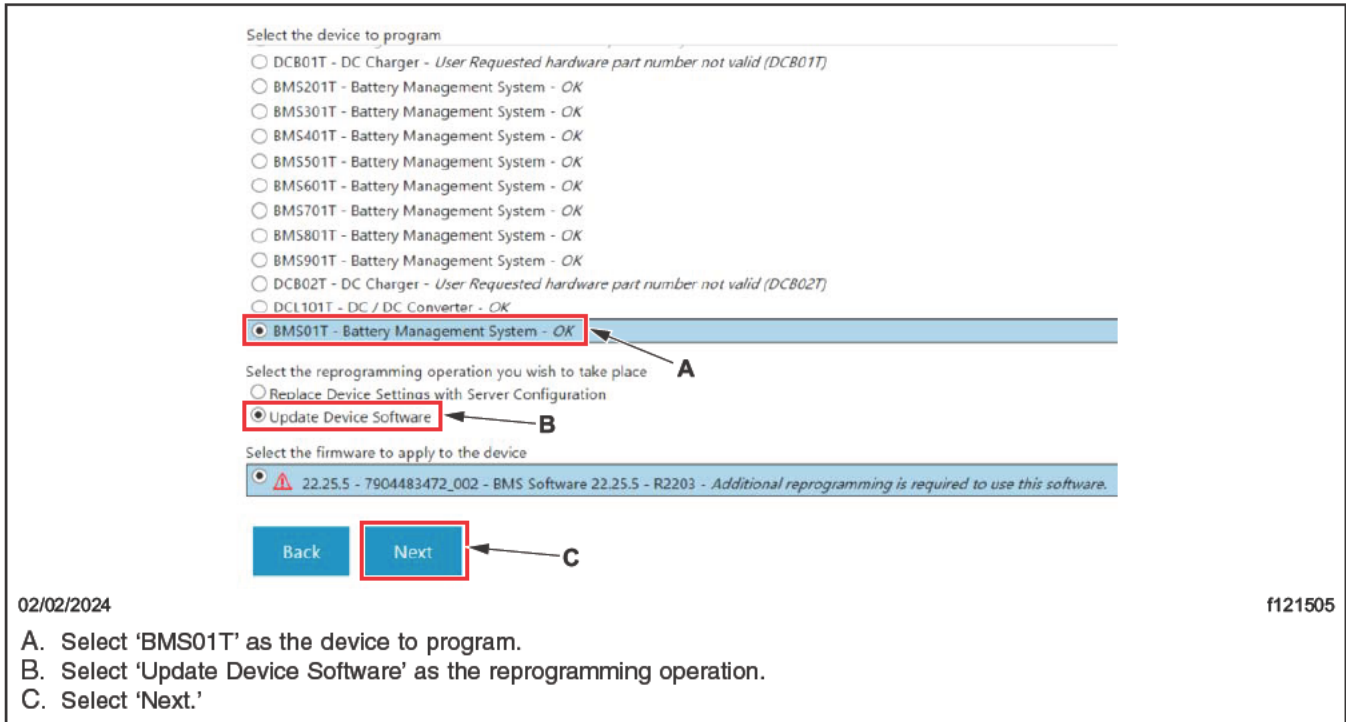

Fig. 28, Updating the BMS01T Device Software
13.1 Select 'BMS01T' as the device to program. See Fig. 28.
13.2 Select 'Update Device Software' as the reprogramming operation. See Fig. 28.
13.3 '22.25.5' is selected as the firmware to apply to the device. Select 'Next.' See Fig. 28.